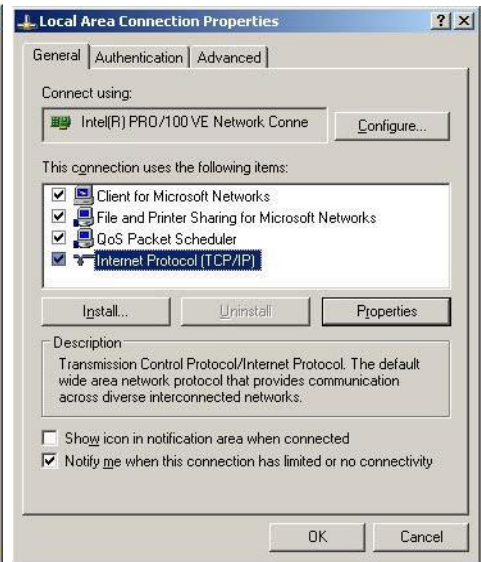

Figure 2
- ▶ With a < double click > on Internet Protocol (figure 2) the function is started.